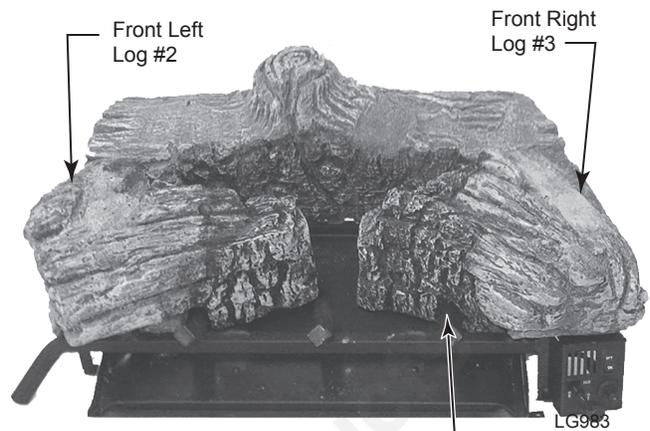

Figure 21
2. Place front left log #2 on left front of grate bar aligning cutout in bottom of log with grate bar. *Figure 21*
3. Place front right log #3 on right front of grate bar aligning cutout in bottom of log with grate bar. Make sure log #3 touches log #1. *Figure 21*